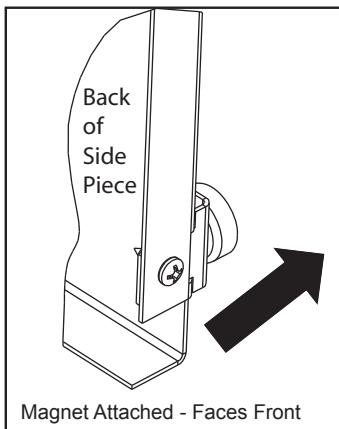

Figure 23.2
- b) Attach the magnets to the magnet brackets with one countersink screw each. Attach magnet and bracket to the metal surround sides with magnet facing the front as shown in **Figure. 23.2 on page 23.**
4. Push the logs to the far left and far right against the sides of the firebox. **Figure 23.2.**